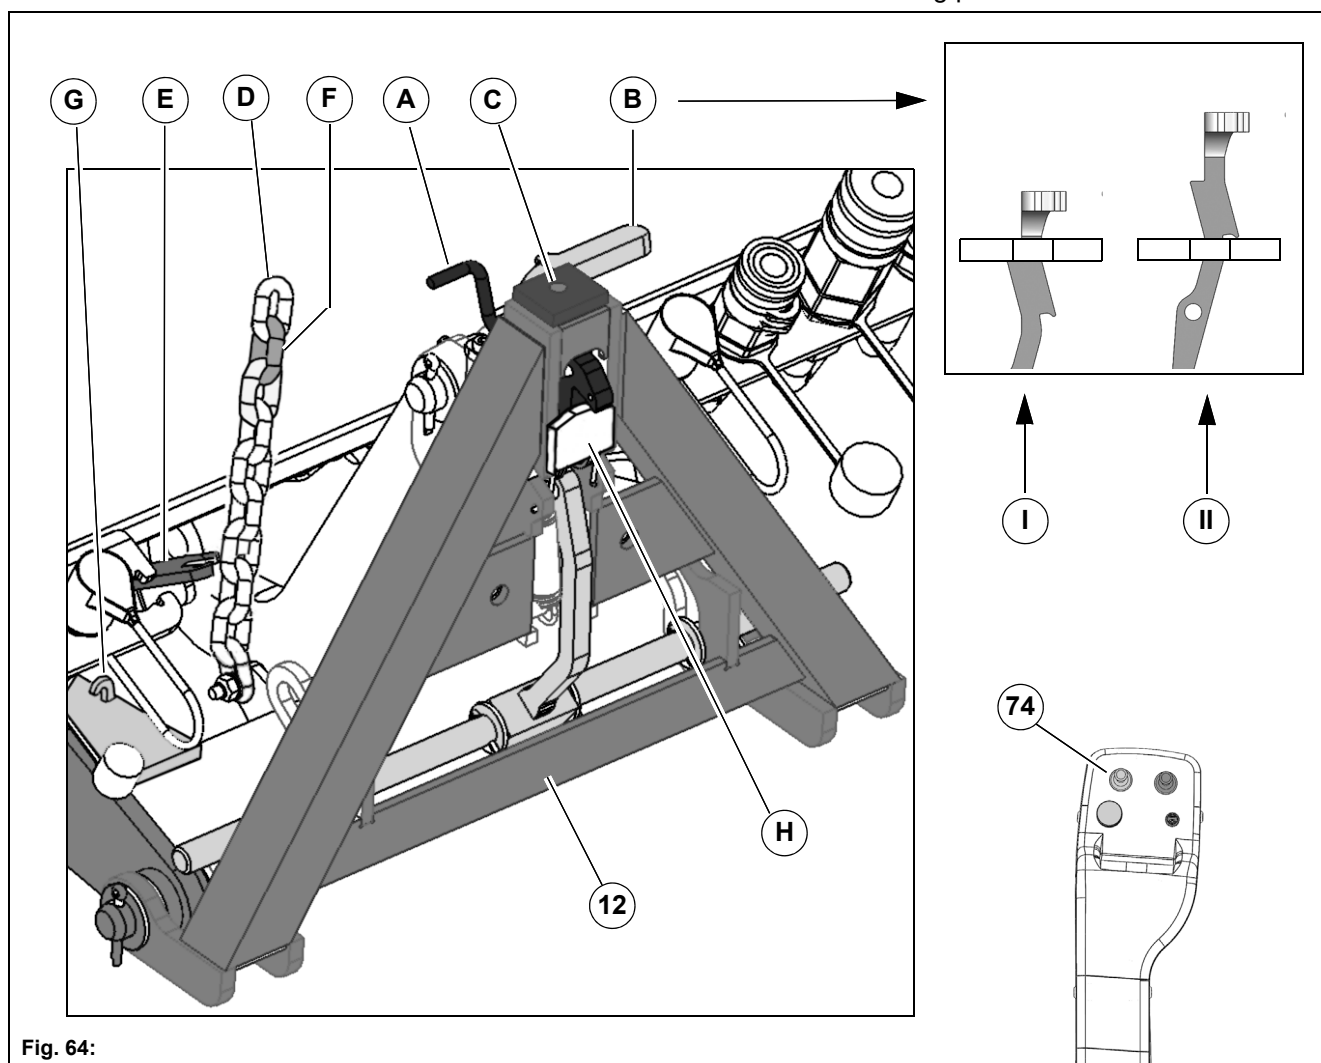

Fig. 64:
1. Bring the locking hook **Fig. 64-A** into the front position and the lever **Fig. 64-B** into the lower position (**I**).
- For vacuum sweeping, hook the chain **Fig. 64-D** onto the holder **Fig. 64-E**. Observe the hooking point **Fig. 64-F**!
- For attachments with floating position, the chain must be hooked onto the hook **Fig. 64-G**! (parking position)!
3. Check the locking plate **Fig. 64-H** on the attachment. If necessary, loosen the screws and shift the locking plate.